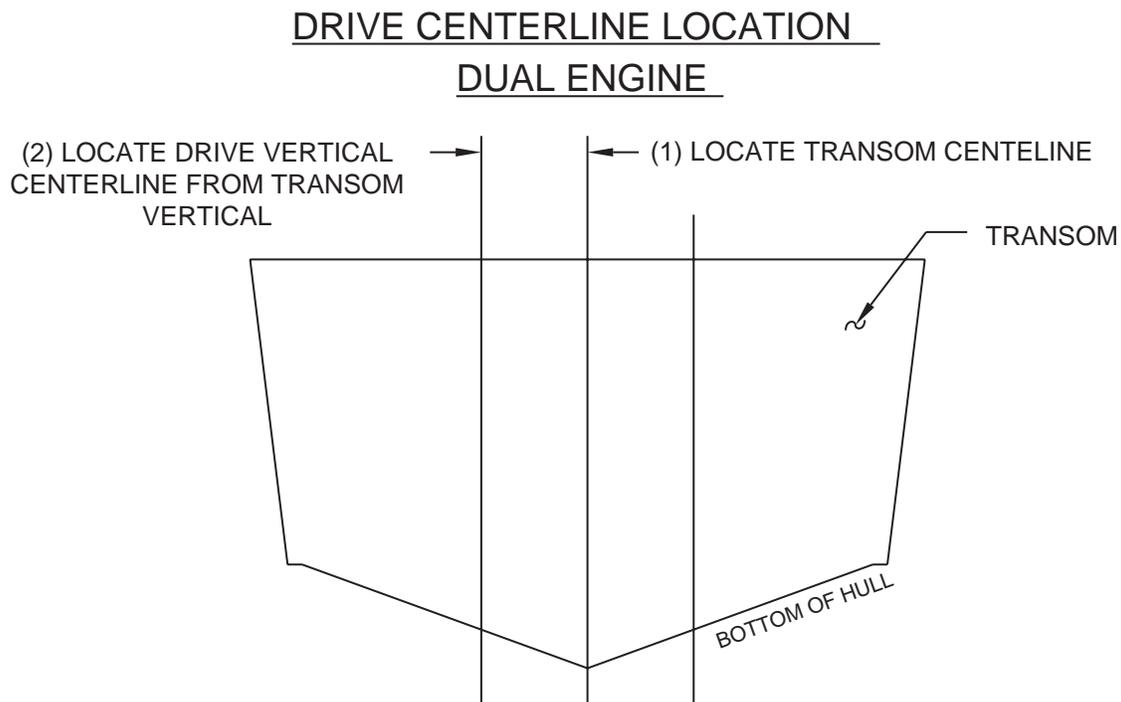

Figure 4. Drive Centerline Location
1. Locate a vertical line(s) on the transom through the intended drive centerline(s) as follows: For twin drive installations, it is recommended that drive centerlines be located in-line with the engine centerlines. For applications requiring offset drive mounting, contact Twin Disc, Incorporated, for recommendations. If at all possible, drive mounting holes should avoid stringers and other hull fittings that preclude the use of through-bolts. See Figure 4.